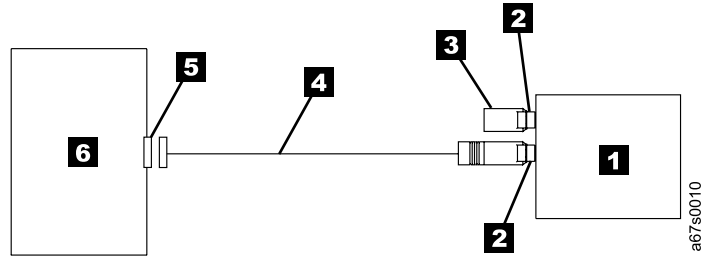

Figure 3. Example of Connecting One SCSI Device to the Host. The view is from the top.
- **If the 3580 Tape Drive Is the Only Device On the SCSI Bus:** connect the SCSI bus cable to the host (see Figure 3). The cable can be up to 25 m (82 ft) long when the 3580 Tape Drive is the only device on the bus.